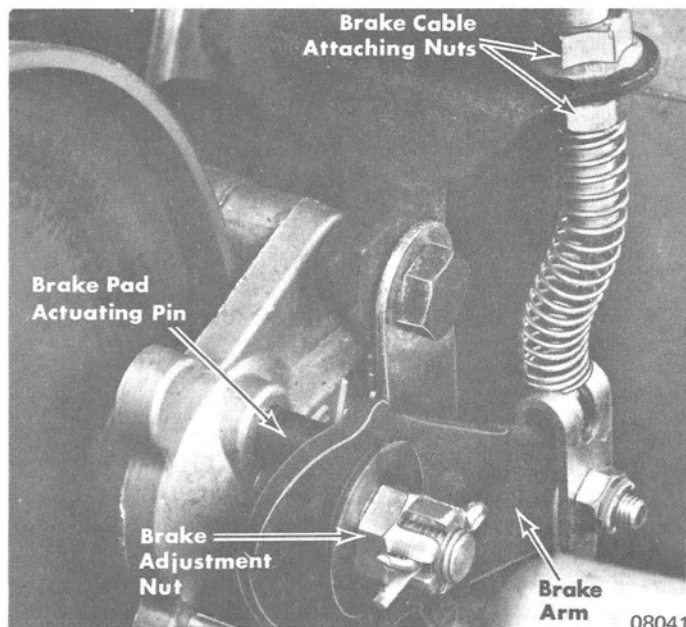
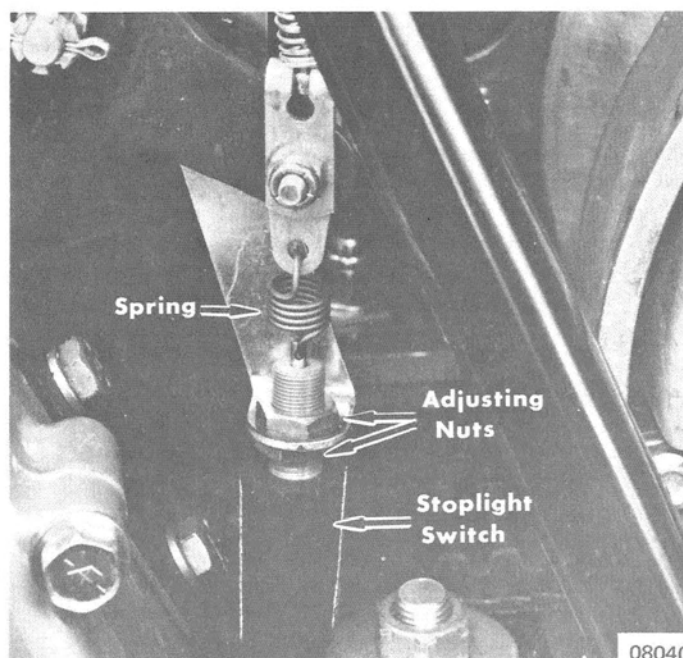

Figure 9. Brake Assembly
Figure 10. Stoplight Switch
4. Check alignment of brake pad actuating pins to brake arm. (Figure 9) Without actuating brake lever, pins must be in center of brake arm depression. Adjust brake cable attaching nuts (Figure 9) as necessary, to align actuating pins to brake arm, and remove "slack" from cable.
5. Remove cotter pin and turn brake adjustment nut (Figure 9) clockwise until brake discs make contact with and cause drag on driven sheave.
1. Loosen stoplight switch adjusting nuts. (Figure 10)
2. Adjust switch up or down with adjusting nuts to leave slight tension on spring. (Figure 10)
**NOTE:** On 440 models with Chassis Serial No. 3709838 and above, Loctite has been applied to adjusting nuts of stoplight switch. Adjust brake cable attaching nuts (Figure 9) to have a slight tension on stoplight switch spring. (Figure 10)